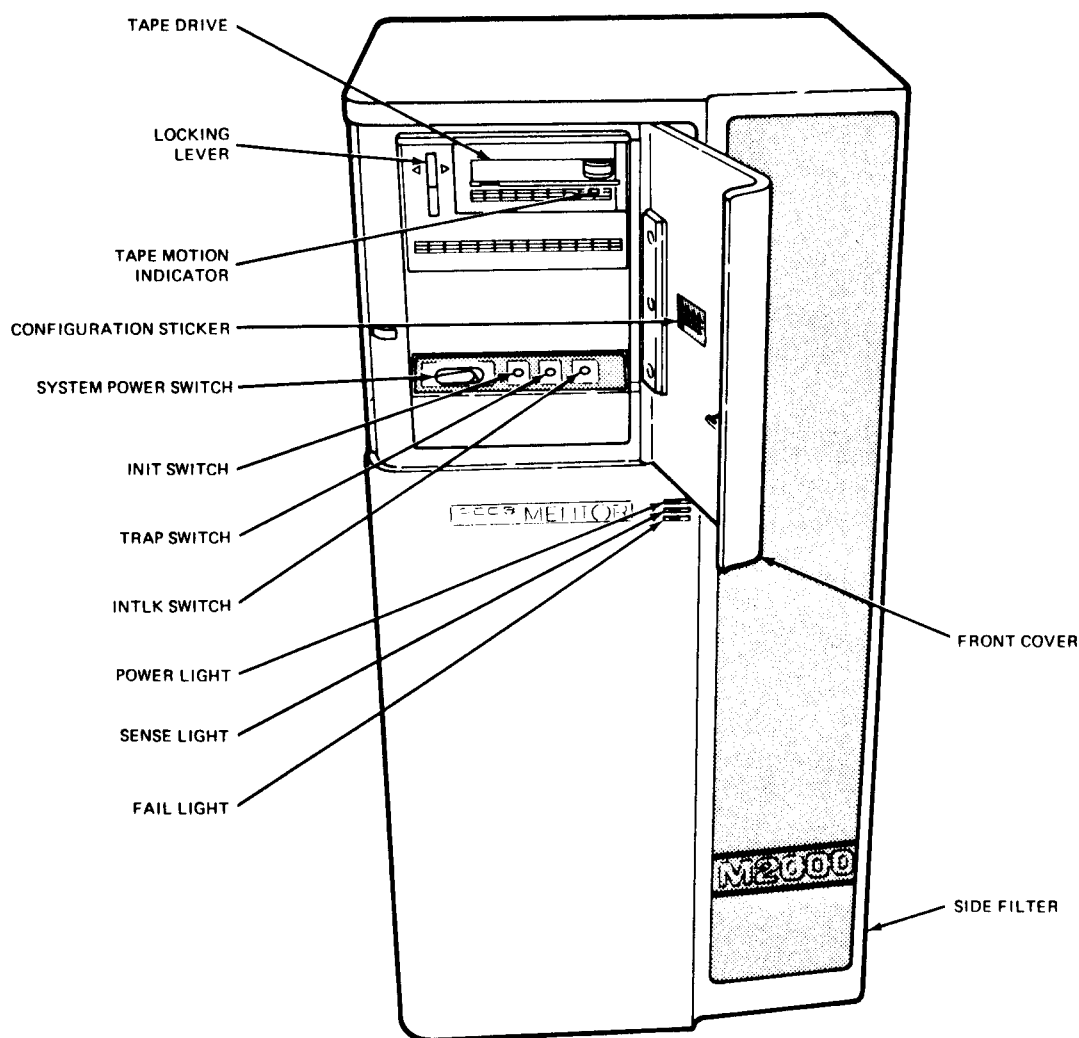
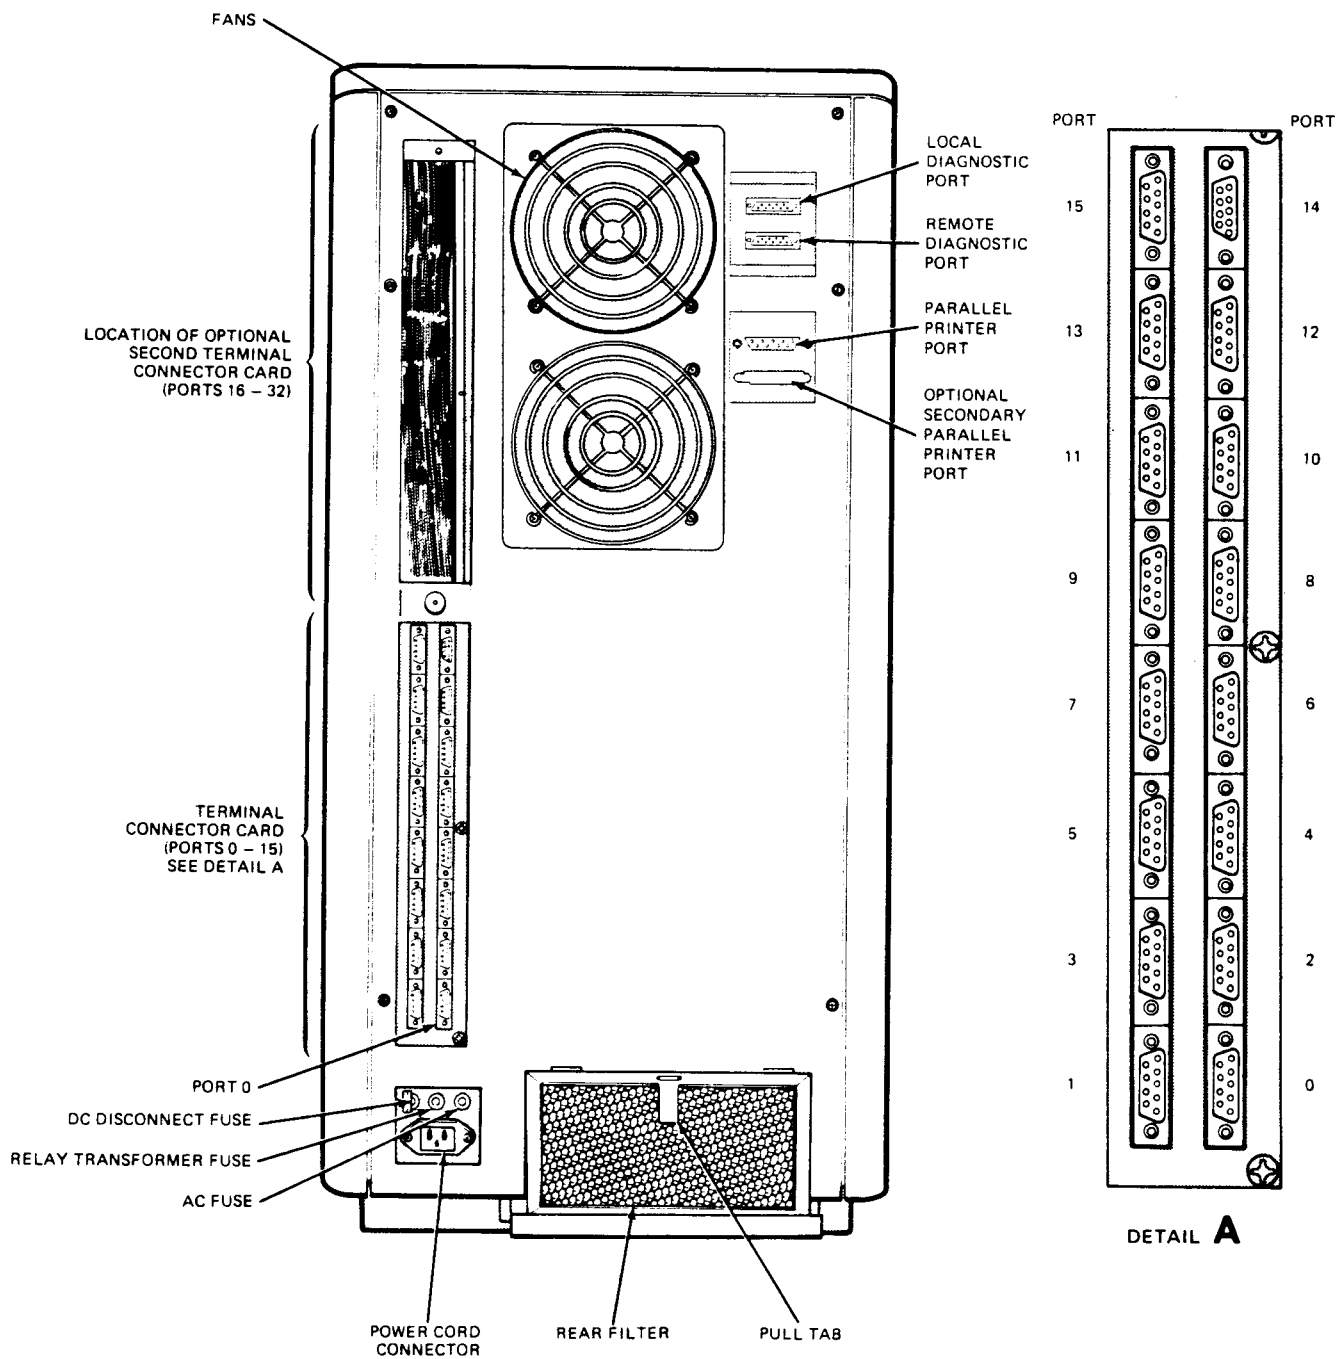
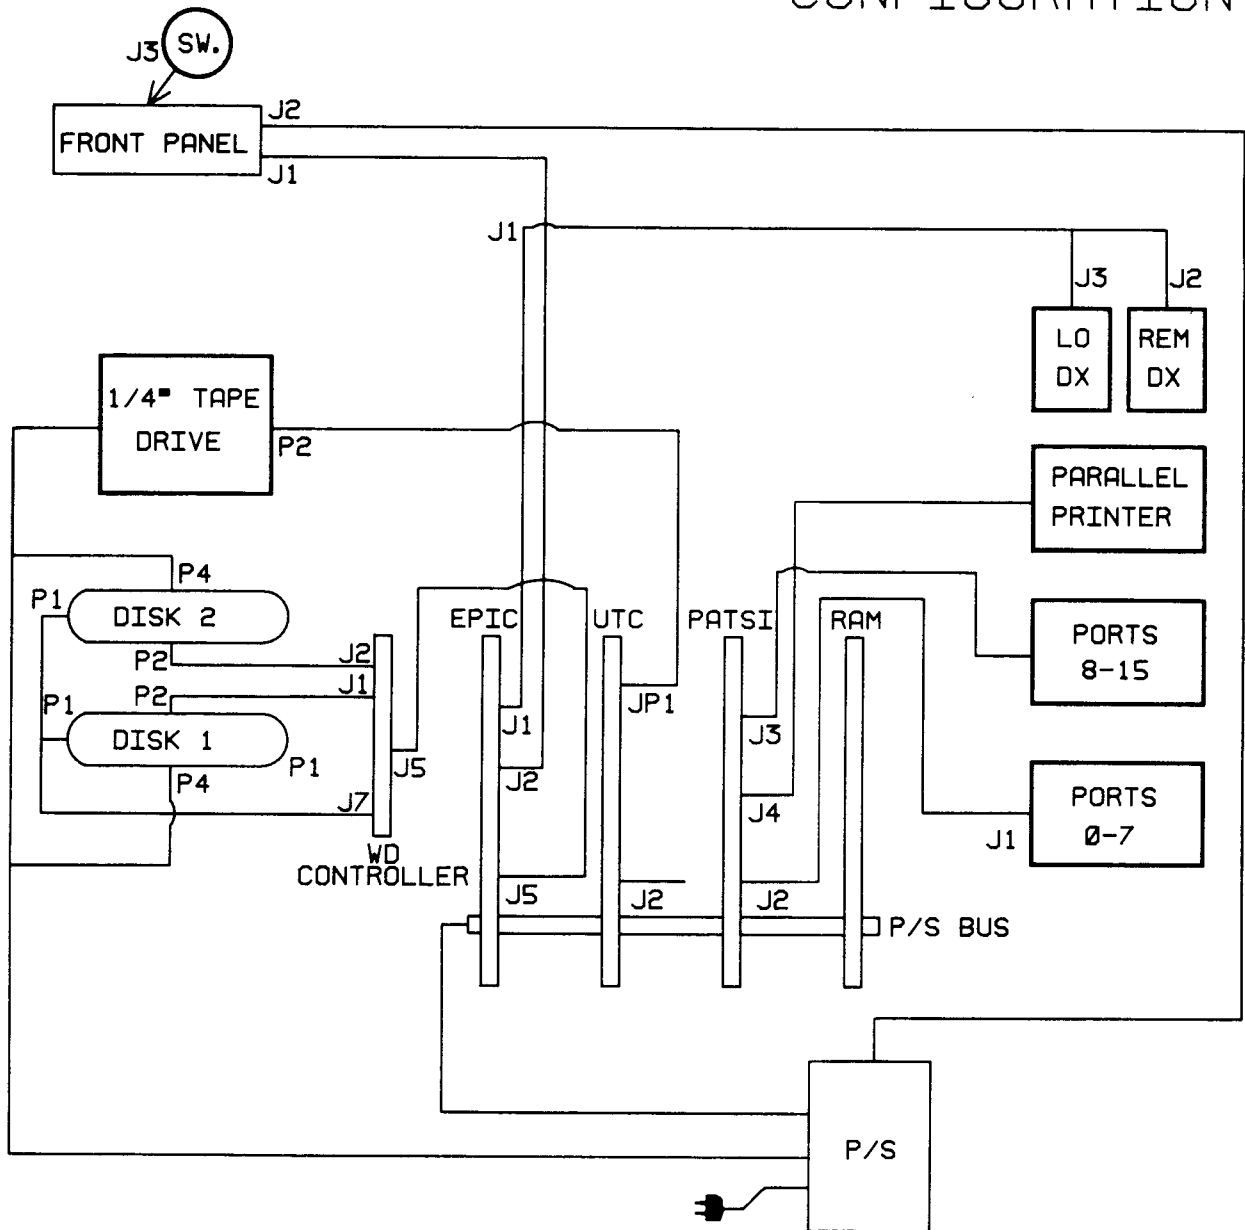

Figure 2-2. Front View
Figure 2-4. Back View of Later Systems
Figure 2-5. Internal Cable Configuration
This topic contains diagrams of a MENTOR 2000/2500 Computer System. Figure 2-2 shows the front of a system. Figure 2-3 shows the back of an early system, including a close-up view of the terminal connector panel. Figure 2-4 shows the back of a later system with its external printer and diagnostic ports, Figure 2-5 is a schematic of the internal cable configuration for a typical system.
8. Connect the printer cable(s) to the parallel printer port(s) (see Figure 2-4) and to separate outlets. For early units, Appendix C describes how to access these ports.
13. Refer to the following topics in this guide to start up the MENTOR. If problems arise, call the MENTOR Response Center at (800) 645-5406 (U.S. only; elsewhere call your dealer).
NOTE: All MENTOR 2000/2500 systems are now being shipped with a configuration sticker that is located on the inside of the front control panel door (see Figure 2-2). The sticker notes the number of RAM boards and the type of disk drive(s) your system has. This information may also be determined from data already on the system.